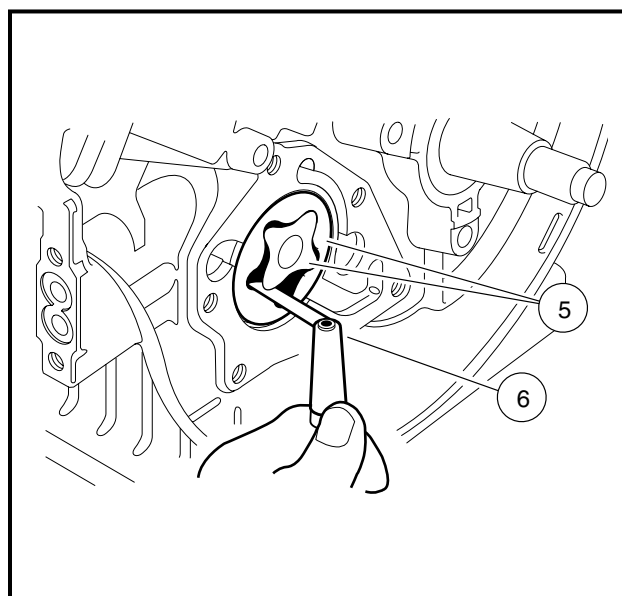

Figure 3-59 Check Clearance Between Rotors
1. Check the clearance between the inner and outer rotors (5) with a feeler gauge (6). Measure the clearance between the high point of the inner rotor and the high point of the outer rotor (**Figure 3-59, Page 3-29**).